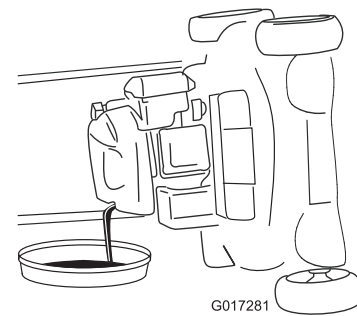

Figure 33
6. Remove the dipstick and drain the used oil into an oil-drain pan (Figure 33).